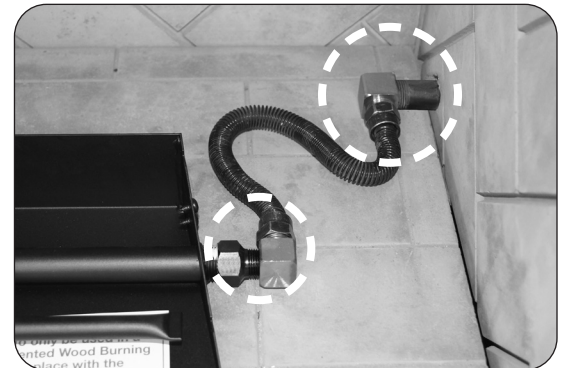

Fig. 11-3 Perform leak test
6. **LEAKTEST:** Follow the appropriate LIGHTING INSTRUCTIONS for your model to ignite the burner. Test at all connections for leaks using the appropriate soapy water solution. See Fig. 11-3. If bubbles appear, a leak is present. Turn off the gas and tighten at all connections. Repeat until no leaks are present. If a leak persists, turn off the gas supply and contact the local gas company or dealer. NEVER USE A FLAME TO CHECK FOR LEAKS.